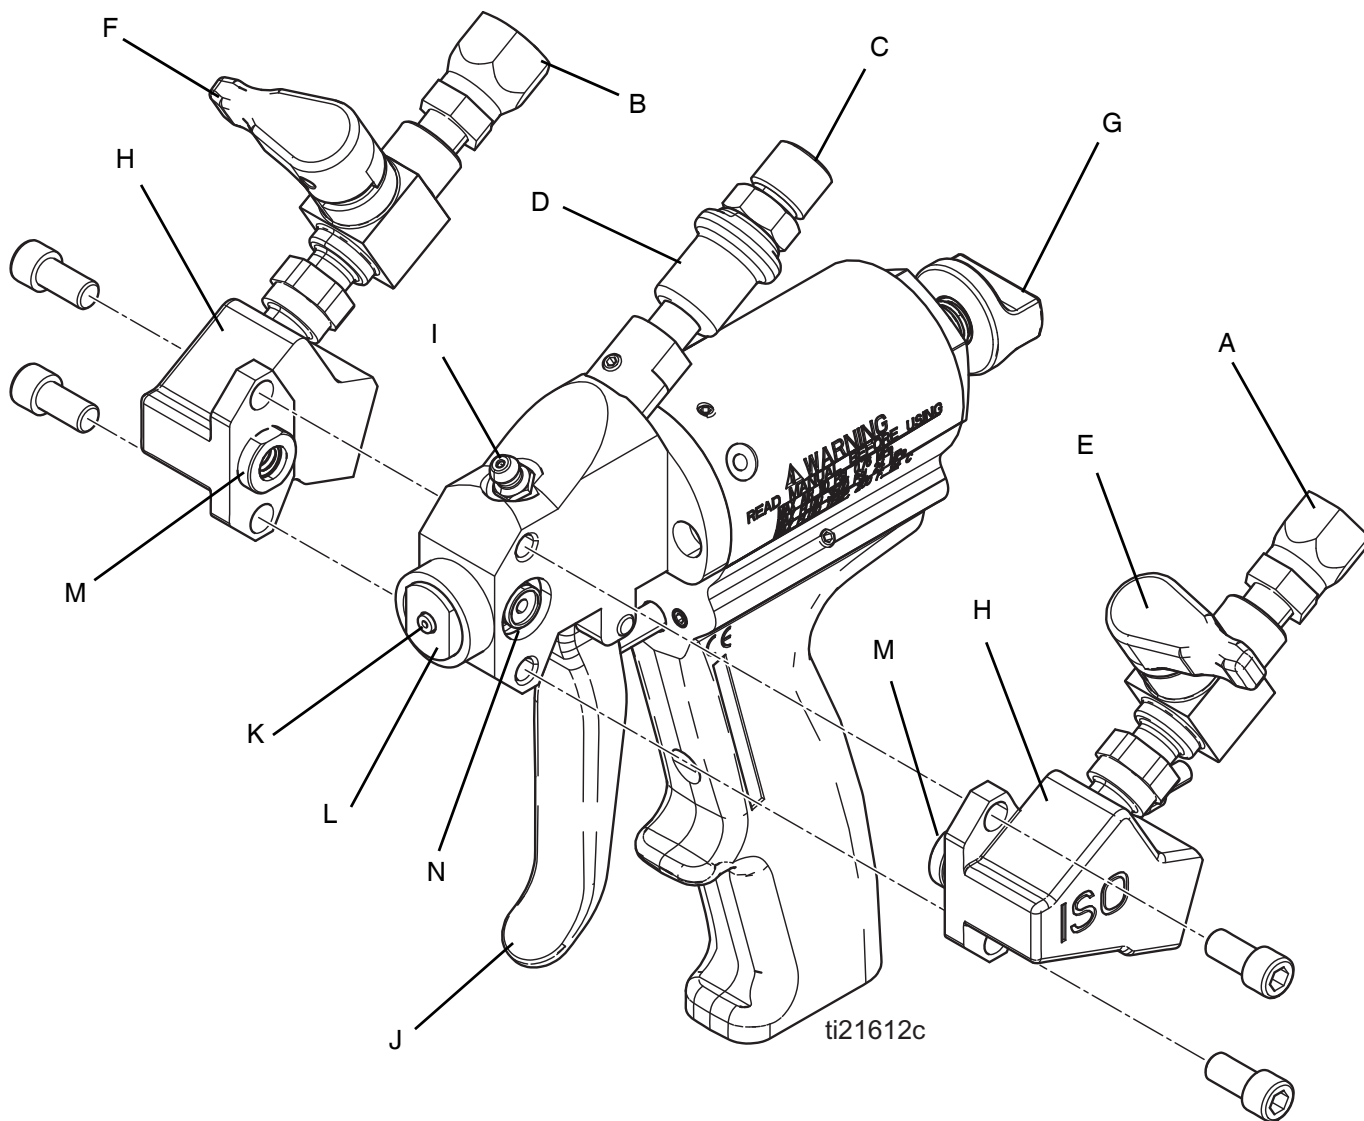

FIG. 1 Probler P2 Components
3. Engage the piston safety lock (G). See **Piston Safety Lock**, page 12.
4. Connect the isocyanate A-side hose to the JIC ISO hose connection (A) and connect the resin B-side hose to the JIC RES hose connection (B) on the P2. See FIG. 1, page 8.
5. Connect the 1/4 in. NPS air supply hose included with the P2 to the supply air hose connection (C). See FIG. 1, page 8.